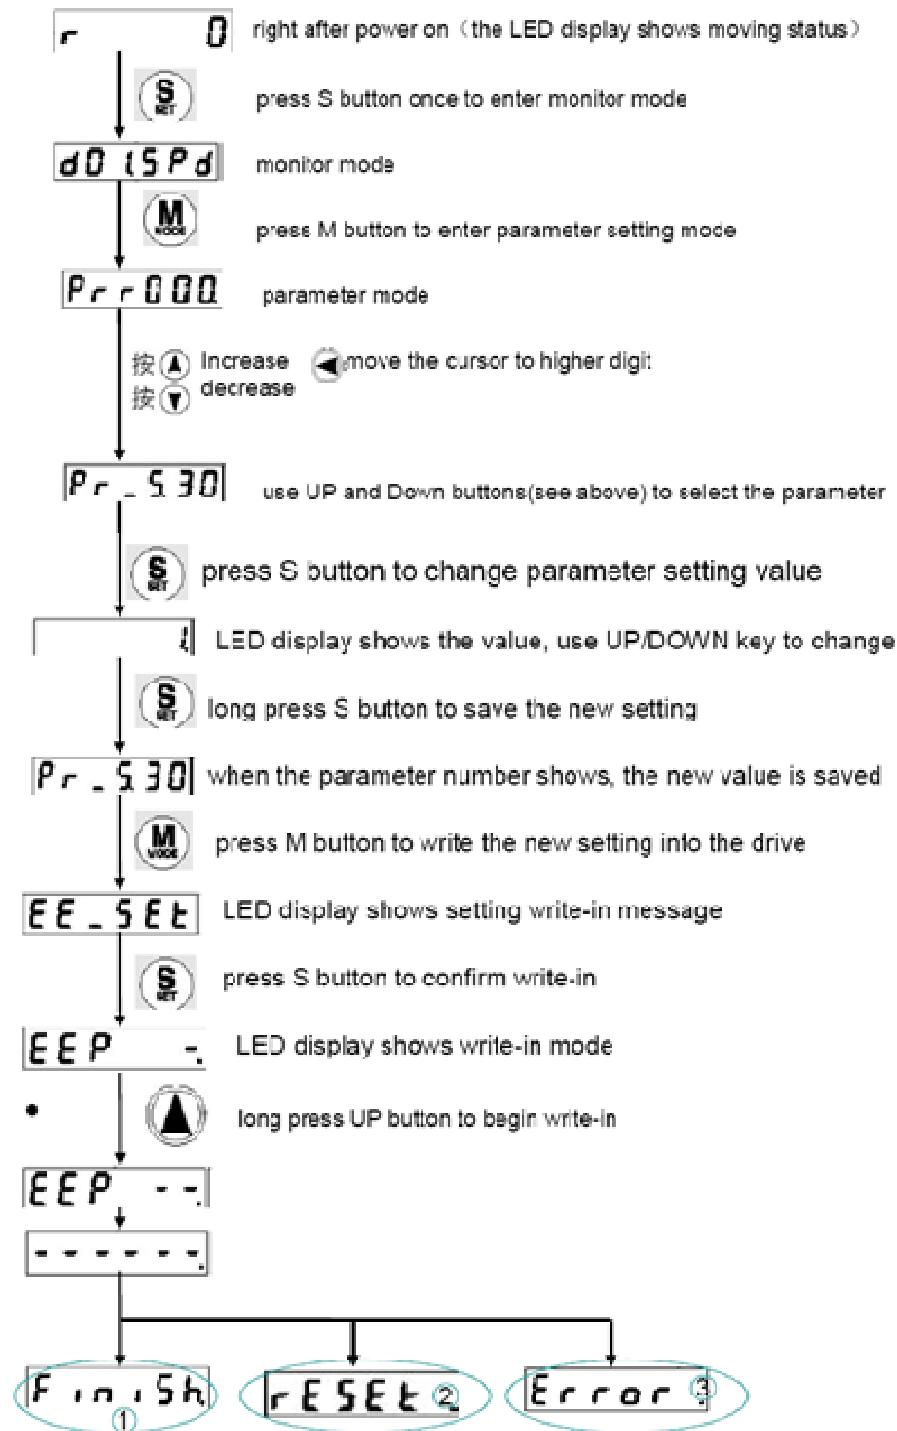

Fig.3-10: Servo motor direction before reversing
6) Set the servo motor direction in the controller. Click **Function--Servo Setup--Axis** to enter the page as shown in Fig.3-10, and change the motor direction from CW to CCW (if default setting is CCW then change to CW). If the controller does not have the function as mentioned above, follow below instructions.